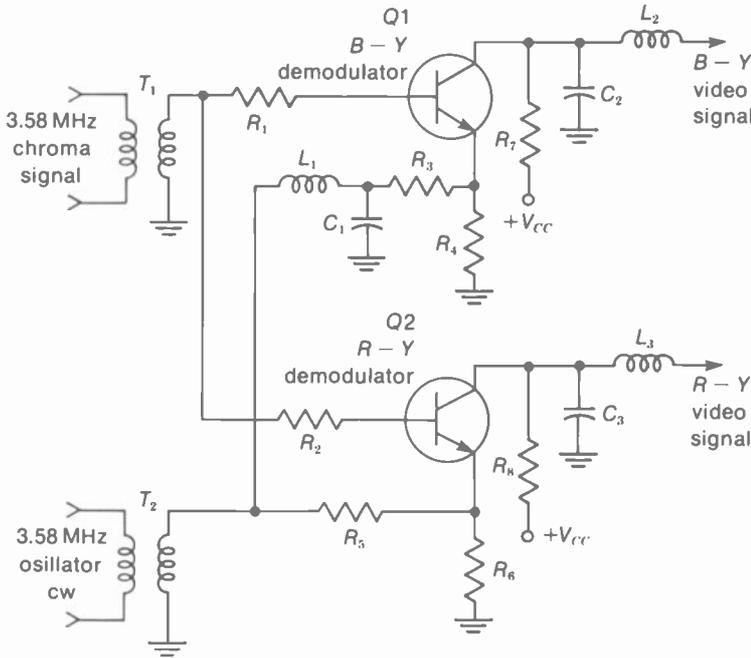

FIGURE 17-20 TRANSISTOR CIRCUITS FOR B - Y AND R - Y DEMODULATORS.
**Transistors for the demodulator circuits.** See Fig. 17-20, with NPN transistors Q1 and Q2 used as B - Y and R - Y demodulators. For each stage, chroma signal is coupled to the base by  $T_1$ . Also, oscillator cw signal is applied to both emitters by  $T_2$ . Note that there is no forward bias voltage at either base. Therefore, the ac input signals drive the transistor into conduction. Effectively, the base-emitter serves as a diode rectifier for synchronous demodulation, and the de-